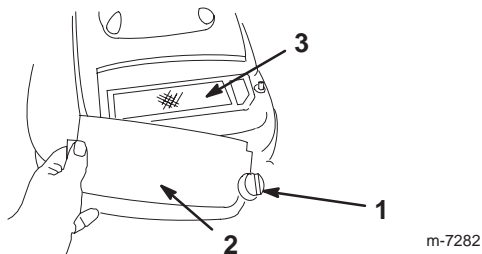

Figure 18
3. Remove the screw that secures the air cleaner cover (Fig. 18).
4. Remove the cover and clean it thoroughly (Fig. 18).
6. Remove the foam pre-cleaner and wash it with a mild detergent and water, then blot it dry (Fig. 18).